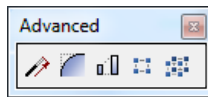

Fig. 125 – Advanced toolbar
- A rectangular array will be created (Fig. 125 – illustration on the right).